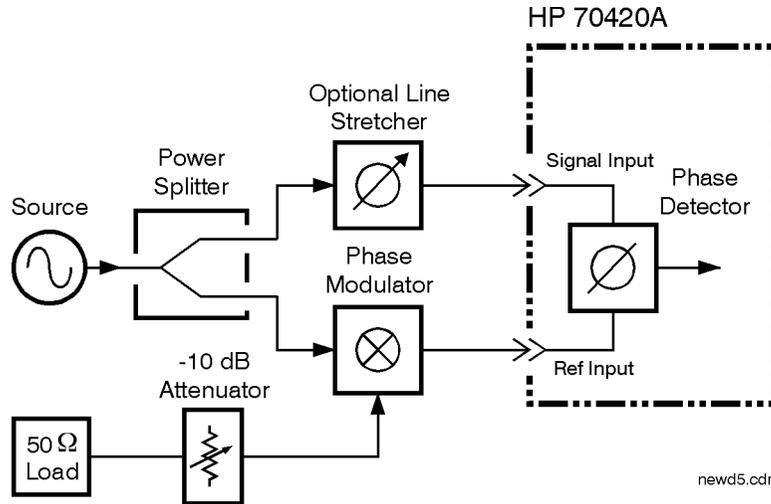

Figure 8-13 Calibration Setup
1. Connect circuit as per Figure 8-13 on page 8-22, and tighten all connections.